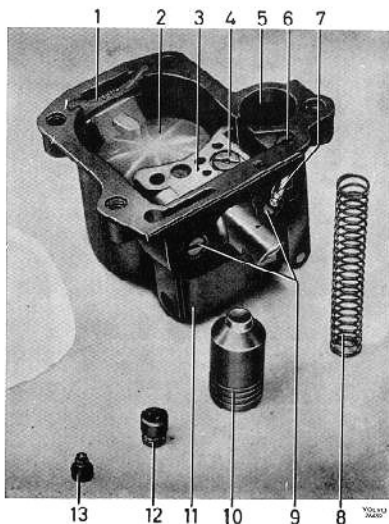

Fig. 82. Float chamber
When cleaning the carburettor it is often sufficient merely to move the floatchamber, take out the float, screw out the air jet for idling (4, Fig. 82) as well as the actual idling jet which is located under the air jet. Also remove the acceleration pump plunger and the idle fuel screw, this screw being on the carburettor housing. Remove the needle valve and check or clean it. Wash the parts concerned in white spirit or alcohol. Blow through all channels and jets with compressed air, including the hole for the idle fuel screw.
2. Remove the lock spring (1, Fig. 82) and lift up the float (2). Note the marking "TOP" on the lock spring.
3. Remove the emulsion block screws (9) and take out the block.
- Remove the acceleration pump plunger, spring, inlet valve, outlet valve and acceleration jet. See Fig. 82.